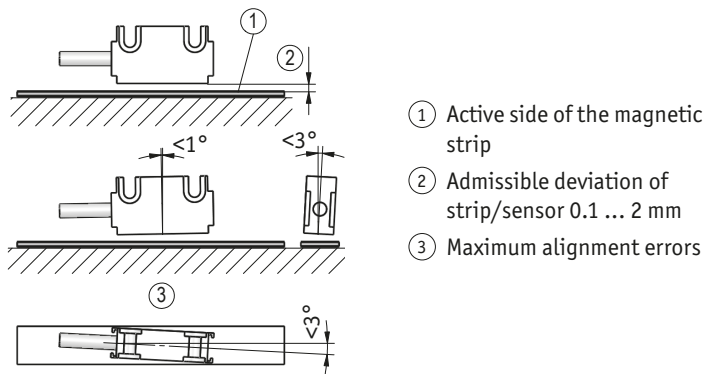

Fig. 6: Mounting sensor / magnetic tape, gap measure, tolerances
► Take care that the magnetic sensor is aligned correctly in order to ensure optimum sensing (see Fig. 6).